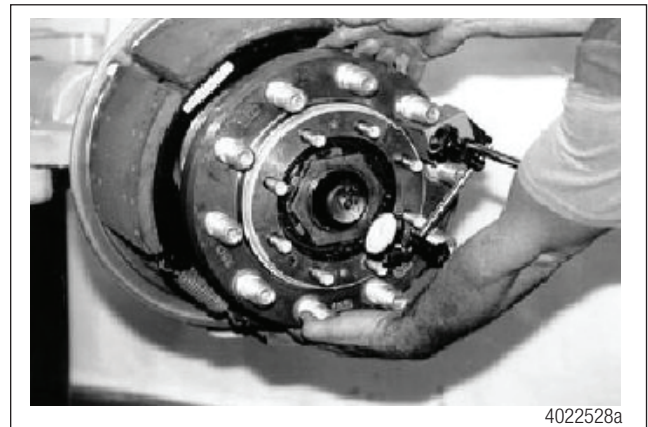

Figure 40
7. Check the wheel bearing end play with a dial indicator. The correct end play setting is 0.002"-0.004" (0.0508-0.1016 mm). If necessary, repeat the steps until the correct end play is achieved. Figure 40.